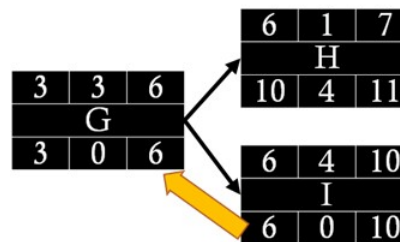

Figure 3.18: Passing successor LS times at burst points as LF times
- At a burst point, as is the case when G is followed by two successors, H and I, we pass the lowest LS time of successors (H and I) to the predecessor activity G as its LF time. Therefore, 6 becomes the LF for Activity G (Figure 3.18).